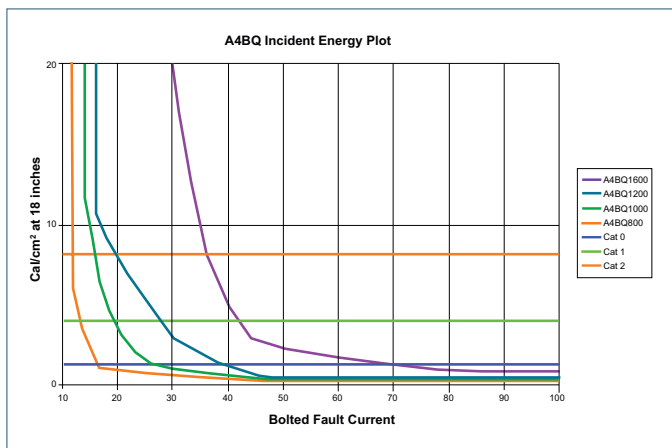

Figure 2: Incident energy chart for ABQ fuses. See Arc Flash Note 2 for proper use.
Fuse performance for arc flash is determined in accordance with IEEE 1584 guidelines for arc in a box testing with vertical electrodes. In these tests, the prospective bolted fault current is first determined with a calibration test conducted with a shorting bar across the phases in the test box. The arc fault is then created by replacing the shorting bar with a fine wire and initiating the test. The incident energy from the resultant arc fault is measured with calorimeters. Due to the added impedance of the arc and the current-limiting effects of the fuses the arcing fault current is less than the bolted fault value determined during circuit calibration. After a sufficient number of tests are performed to establish an acceptable confidence level for the results, the fuse manufacturer publishes its test results based upon the bolted fault values. See Figure 2 for a plot of incident energy versus bolted fault current for A4BQ Class L fuses.
From our incident energy graph (Figure 2) we see that the projected incident energy for arc faults within the MCC would be approximately 14 cal/cm² for an 18 inch working distance. This requires PPE appropriate for NFPA 70E’s Hazard/Risk Category 3. The company’s electrical safety plan requires that Category 2 and higher hazards be evaluated for potential hazard reduction by engineering.
The incident energy graph for A4BQ fuses (Figure 2) is then considered. With a bolted fault current of 32kA, the expected incident energy is 2.5 cal/cm² for the A4BQ1200 and 0.5 cal/cm² for the A4BQ800.
- Consider available fault current when specifying the fusible mains. Select the ampere rating of main fuses so that the incident energy calculations on the bus and buckets yield an incident energy of less than 1.2 cal/cm2. Use data such as that in Figure 2. For example, selection of an A4BQ800 would yield a calculation of 1.2 cal/cm2 for bolted fault currents as low as 16kA.